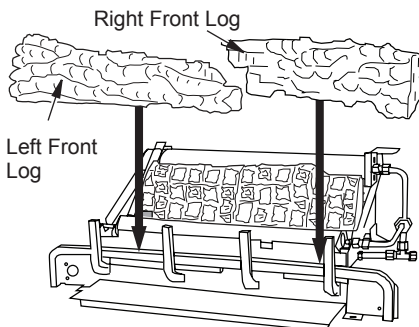

Figure 26 - Installing Left/Right Front Logs
- Place front left (18" D-064, 24" D-057 & 30" D-038) and front right (18" D-065, 24" D-058 & 30" D-039) logs as shown in Figure 26.